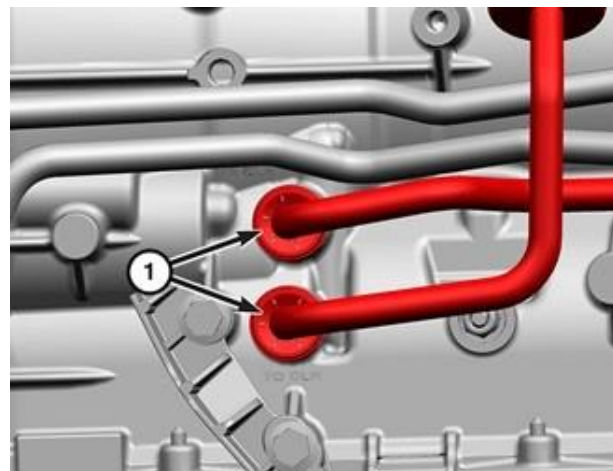

Figure 45 – Oil Cooler Lines
58. Using the Disconnect Tool 9546, disconnect the transmission oil cooler lines (1) from the transmission (Figure 45).
78. Connect the transmission lines (1) to the transmission. Be sure that the lines are fully seated. Snap the lock ring over the line fitting (Figure 45).